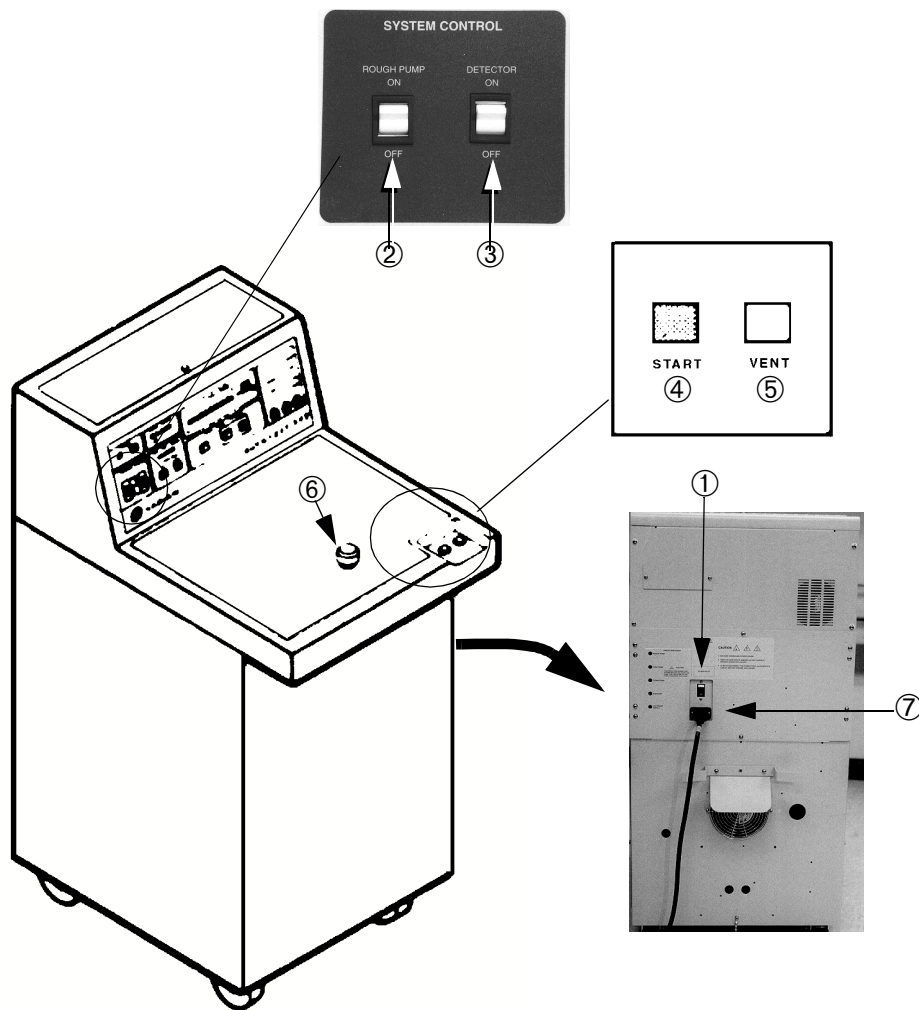

Figure 3-2 Start-Up Controls
Figure 3-2 shows the important 947/948/960 operation controls for start up and power. For circuit breaker descriptions, refer to Section 1.5, “Rear Panel Power Connection and Circuit Breakers” on page 1-10.
Refer to Figure 3-2 and follow the start up procedure, listed in the next Section, and in Section 3.4, "Calibration and Sensitivity Checks" procedure to put the 947/948/960 in a *Ready for Operation* state from the *All Systems off* condition.
2. Place the test port plug in the test port opening ⑥. Refer to Figure 3-2 on page 3-9.